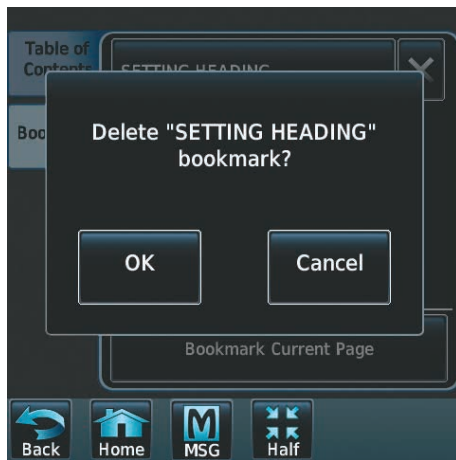

Figure 8-119 Delete Bookmark
- 3) Touch the **X** Button next to the bookmark to be deleted (Figure 8-119).